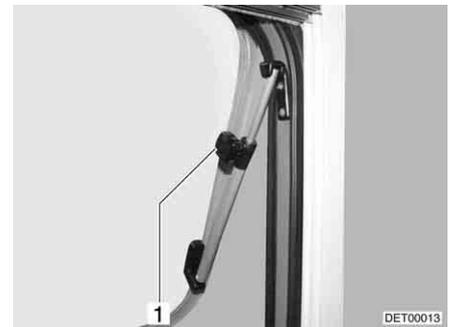

Fig. 57 Hinged window with rotary hinges, open
- Open the hinged window until the required position has been reached and use knurled knob (Fig. 57,1) to secure in position.
- Turn knurled knob (Fig. 57,1) until the latch is released.